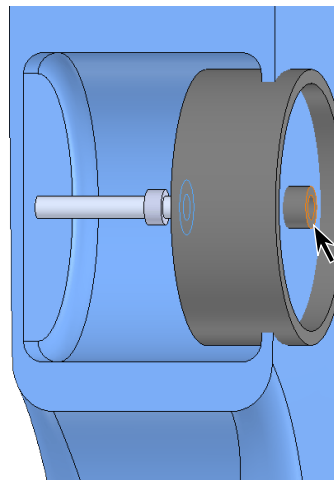

Fig. 15
Step 4. Use **Left arrow key** to rotate assembly to view side face of Wheel GT-R hub, **Fig. 15**.
Step 5. Click **side face of Wheel GT-R hub**, **Fig. 15**.